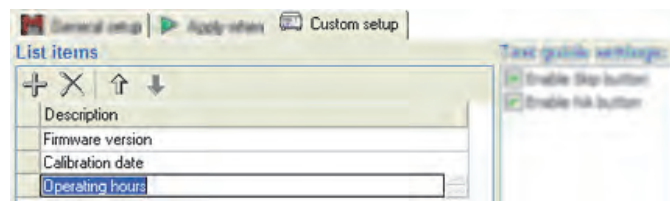

Figure 3-46. Defining the General List
- Click the textbox below the column header named **Description**. A blank textbox is added in the column under Description shown in Figure 3-46.